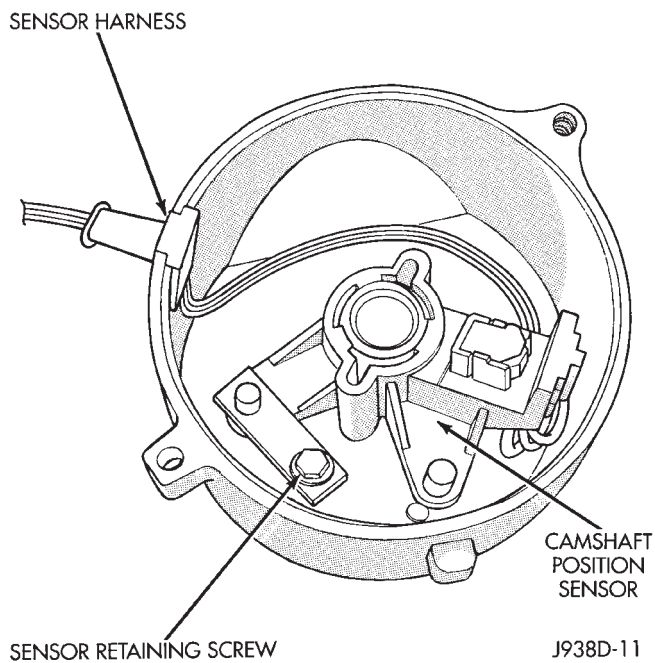

Fig. 3 Camshaft Position Sensor—4.0L Engine
- (5) Lightly tap the end of the distributor shaft until distributor gear and thrust washer are removed.
(6) Slide the distributor shaft out of the distributor housing.
(7) Remove the camshaft position sensor mounting screw and positioning arm (Fig. 3).